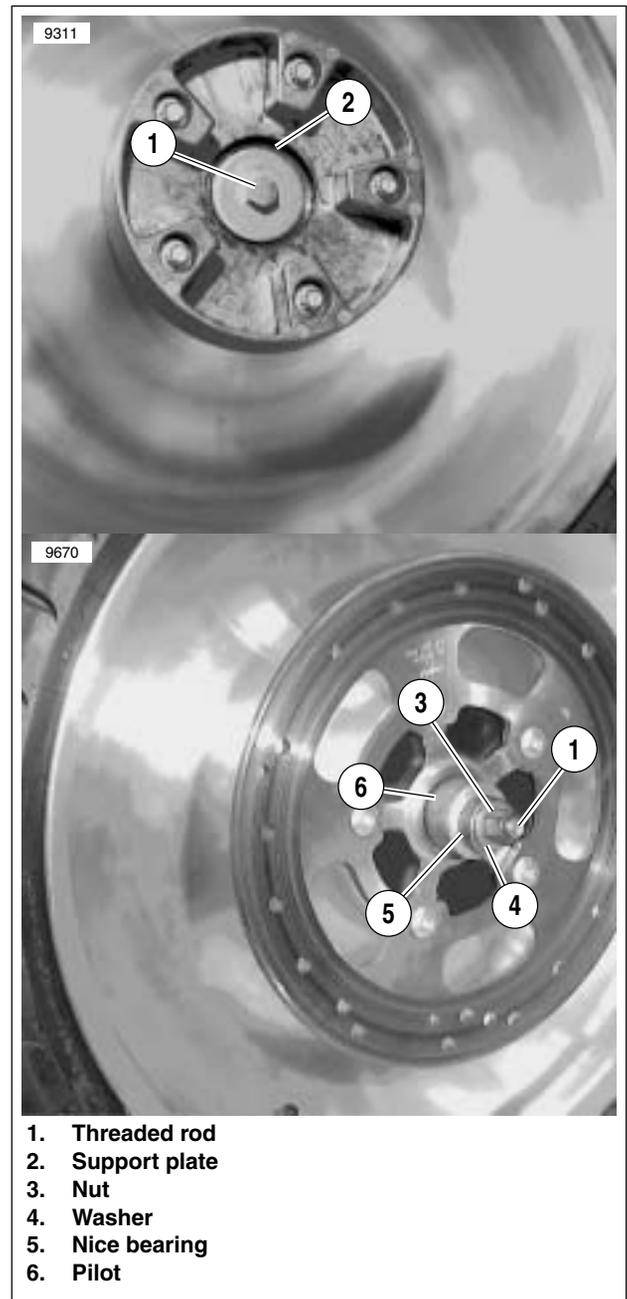

Figure 2-79. Installing Wheel Bearing
- b. See Figure 2-79. Place threaded rod (1) through support plate (2).
- d. Place the **new** bearing on threaded rod (1) with lettered side outward.
- e. Install pilot (6), Nice bearing (5), washer (4) and nut (3) over rod.
2. Hold hex end of threaded rod (1) and turn nut (3) to install bearing. Bearing will be fully seated when nut can no longer be turned. Remove tool.